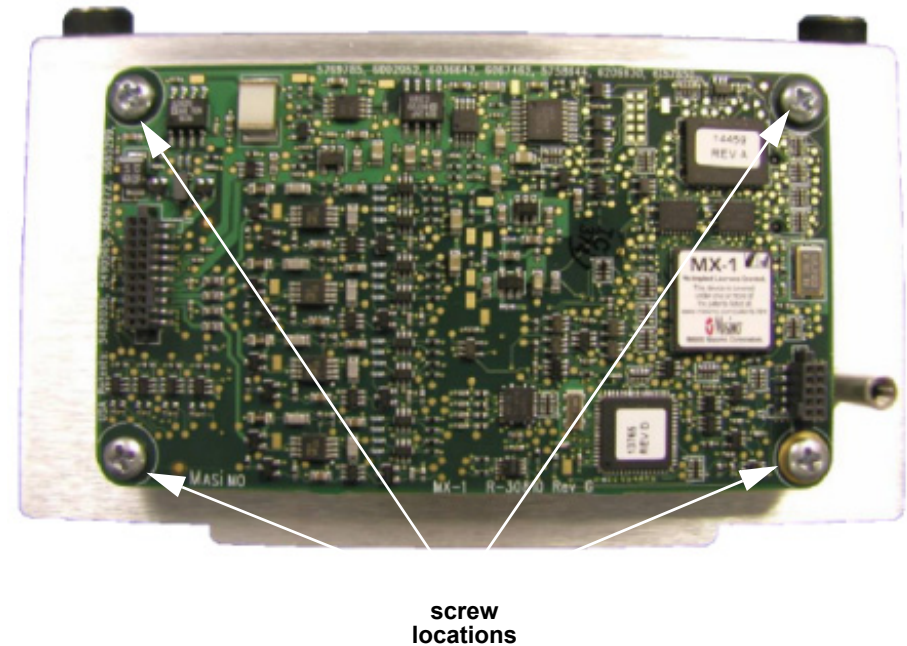

Figure 10.71—SpO2 PCB screw locations
2. Attach the SpO2 module to the bracket using four new screws (202253-760); torque to 4.0 in-lb (see Figure 10.71 on p. 399).